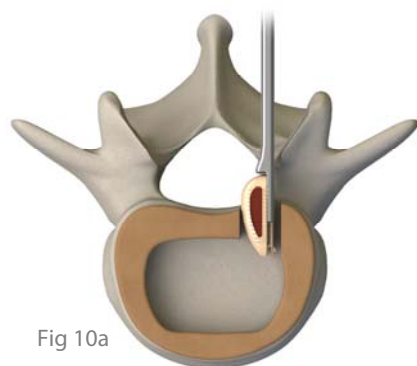

Fig 10a
- Using either a Threaded Inserter or an Insertion Guard, insert the A module. (Figures 10a and 10b shown using an Insertion Guard.)